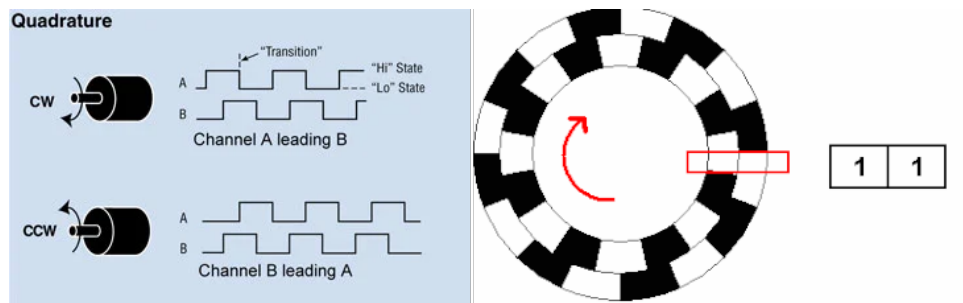

Figure 6.1: Quadrature encoder working principle
2. Observing Figure 6.1 (Quadrature encoder working principle), if Channel A leads Channel B (i.e., Channel A's rising edge occurs before Channel B's), is the encoder rotating clockwise or counter-clockwise? Justify your answer
The rotary encoder has two output signals, A and B, which issue pulses when the device is moved. Each channel provides a specific number of equally spaced **pulses per revolution (PPR)** and the direction of motion is detected by the phase relationship of one channel leading or trailing the other channel as showing in Figure 6.1.